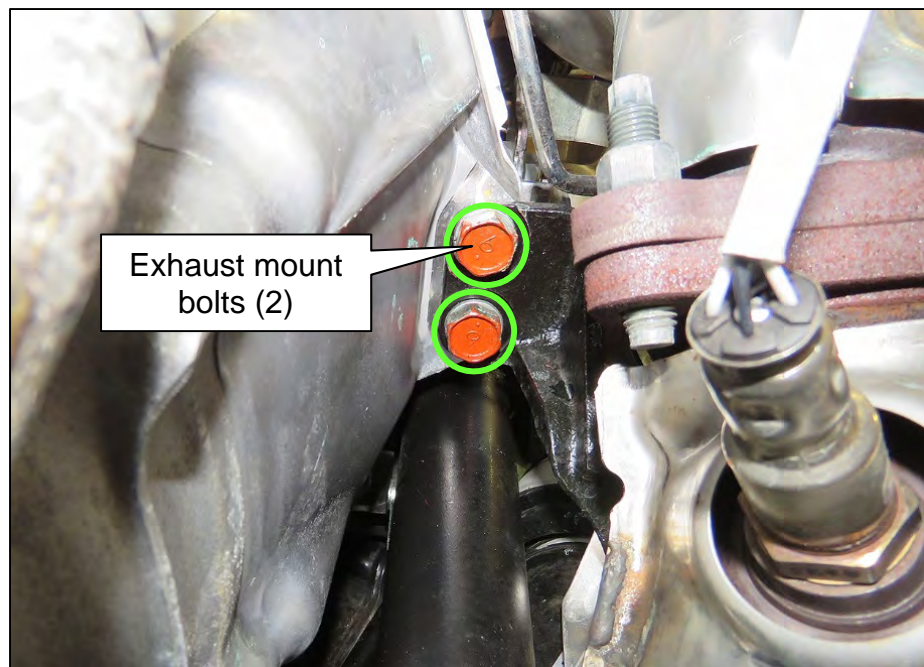

Figure 47
69. Remove the two (2) exhaust mount bolts shown in Figure 47.